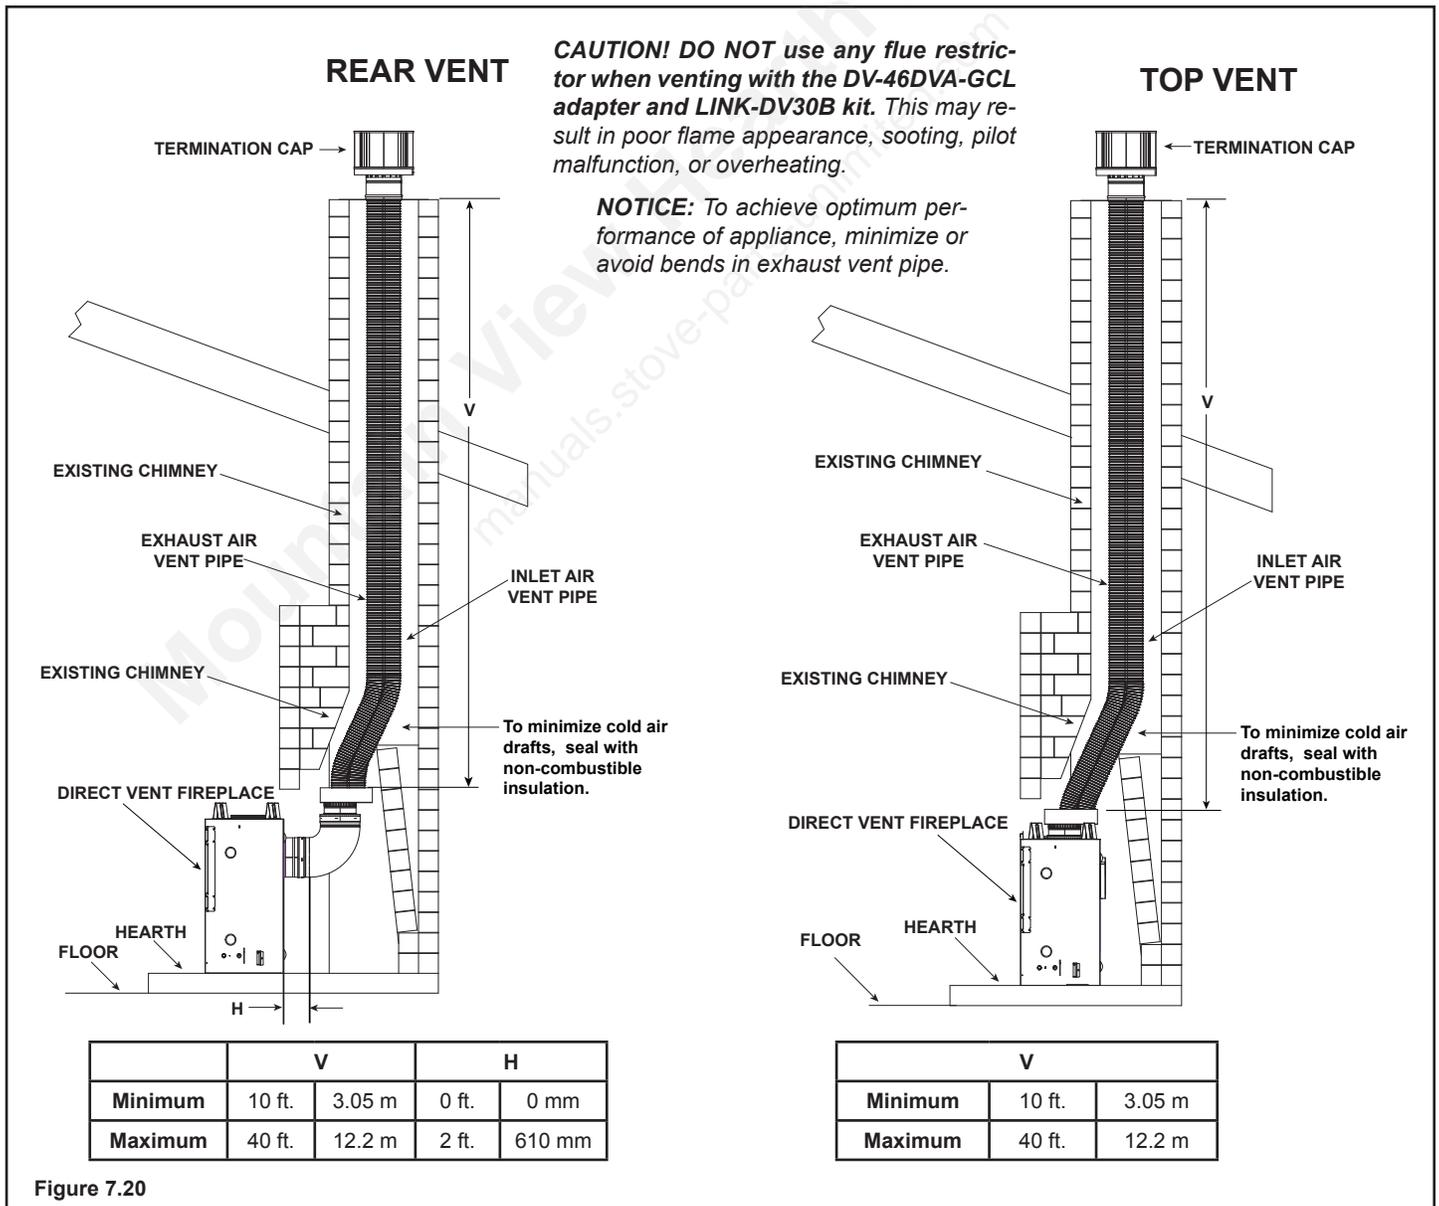

Figure 7.20
- Remove top seal cap and insulation if equipped. See Section 14, "Appliance Setup." Attach the DV-46DVA-GCL adapter to the appliance starting collar with 3-1/2 in. self-tapping screws. See Figure 7.20.
- Remove the rear seal cap and insulation if equipped. Connect the DVP-2SL adapter to the vertically positioned elbow. Follow installation instructions included with DVP-2SL kit. Secure DV-46DVA-GCL adapter to DVP-2SL with 3-1/2 in. self-tapping screws. See Figure 7.20.